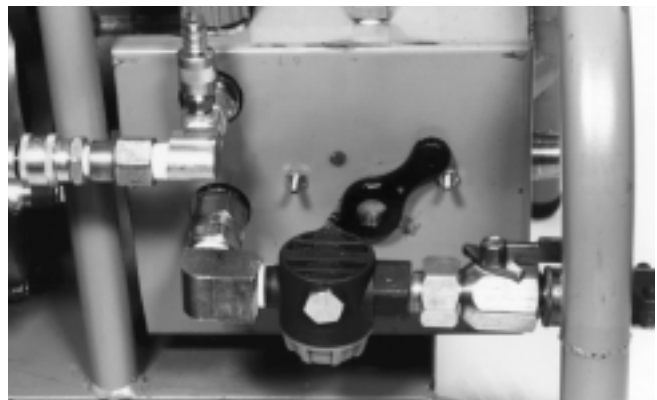

Figure 7 – Pulse Actuator ON
1. Rotate the pulse actuator lever clockwise to induce the pulse (Figure 7).